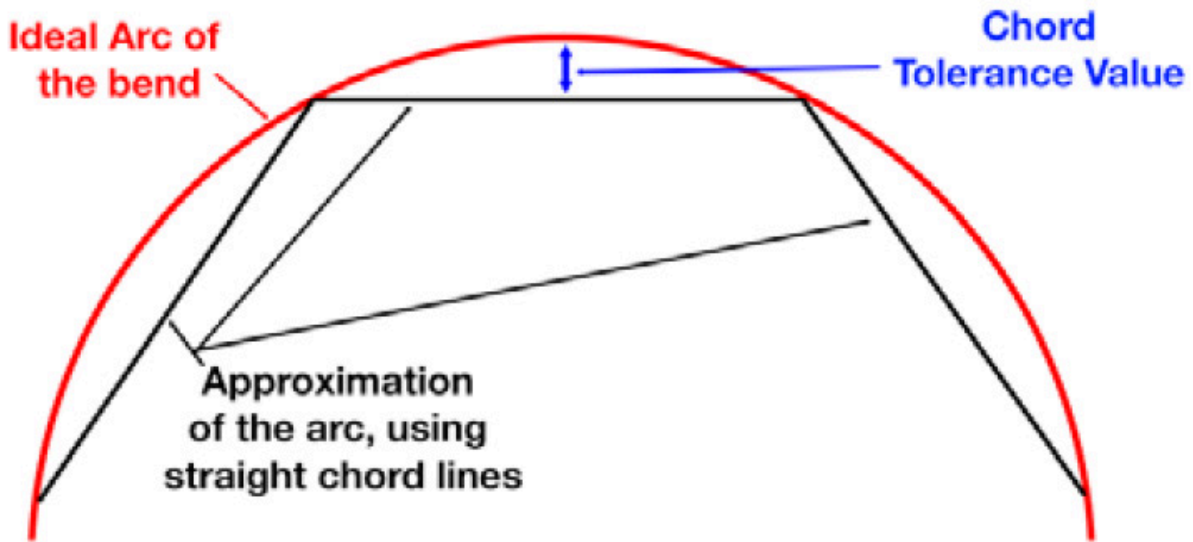

Figure 7.9: Chord Tolerance option
- **Chord Tolerance:** A chord is a straight line that joins two points on a circular arc. When we create Bent Lofted Bends, we are approximating an arc by using straight lines. *Figure 7.9* shows an ideal arc and an approximated version using chords (straight lines):
The **Chord Tolerance** option sets a maximum value between the straight chord line and the ideal arc, as shown in blue in *Figure 7.9*.